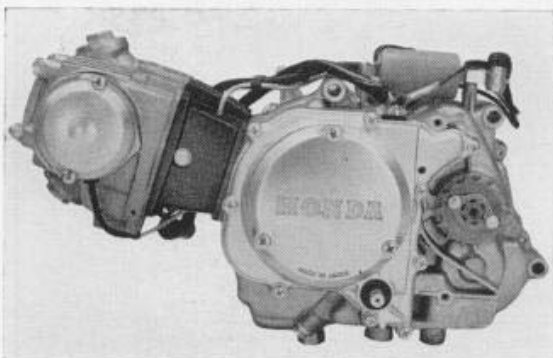

Fig. 3.5 Engine assembly
7. Unhook the brake pedal spring. Remove the nuts mounting the engine (3 for S 90, CL 90, CL90L, 2 for CD 90) and the rear engine under bolt. Pull out the two 10 mm hex bolt, and the engine can be separated from the frame. (Fig. 3.5)